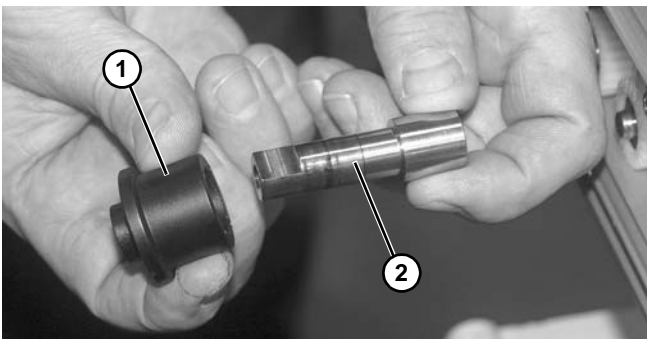

Figure 19
6. Remove roller (Figure 19, item 1) from roller shaft (Figure 19, item 2). Note: If driven roller, roller will be fixed to shaft.